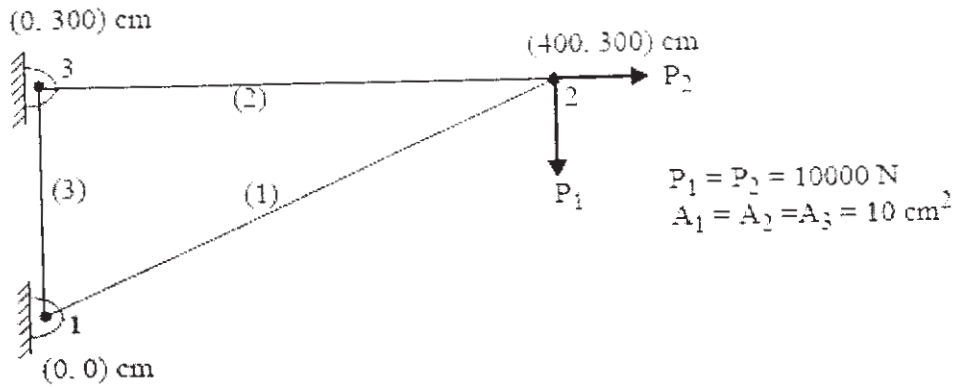

Fig. 3a
- Q3)** a) For the plane truss as shown in fig. 3a, determine the following. Each element has $E = 20 \times 10^6 \text{ N/cm}^2$. [10]